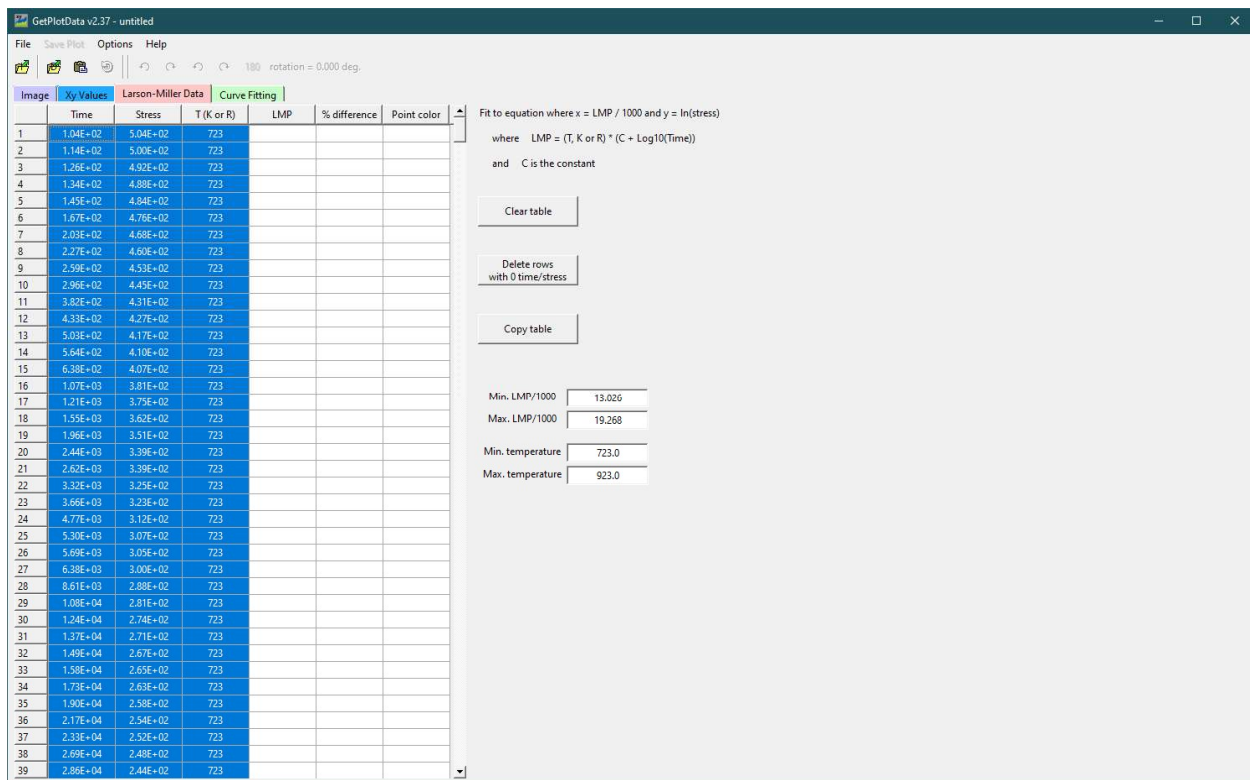

Figure 8 Enter data for the Larson-Miller fit.
- a) Change to the “Larson-Miller Data” tab and paste your data into the table (Figure 8).